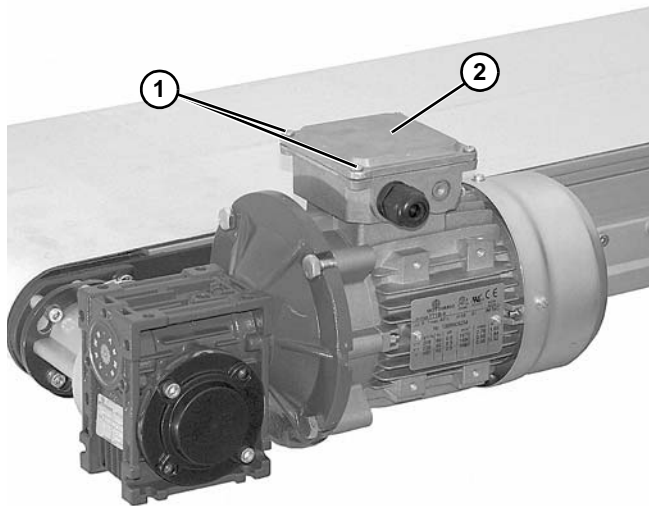

Figure 22
- a. Loosen terminal box screws (Figure 22, item 1) and remove cover (Figure 22, item 2).